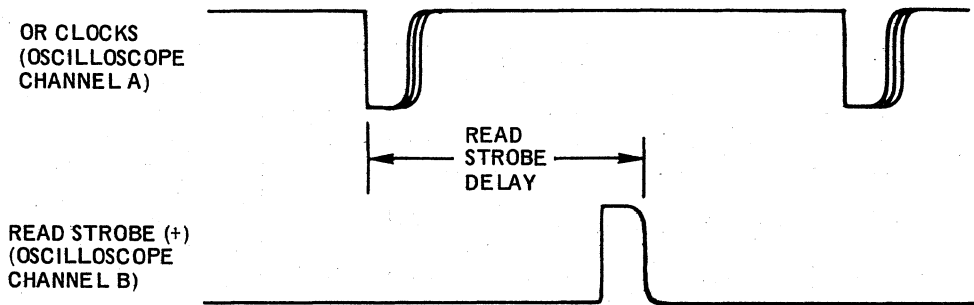

Figure 5-6
- Step 11: Adjust R13 (top potentiometer) on B8 to obtain a read strobe delay of 8 μ sec* between the leading edge of the first OR Clock signal and the trailing edge of the following Read Strobe (+) pulse, as indicated on the oscilloscope. The timing relationship of the two signals is shown in Figure 5-6. See Figure 5-1 for potentiometer location.